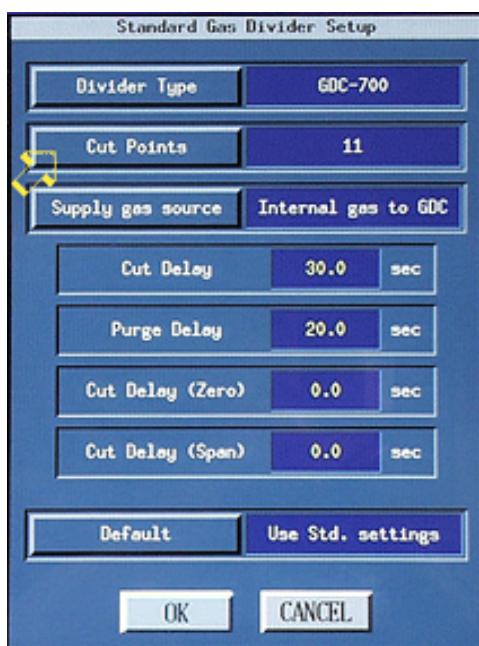

Figure 8
- 115 Click on the “Cut Points” button. See the arrow in Figure 8.